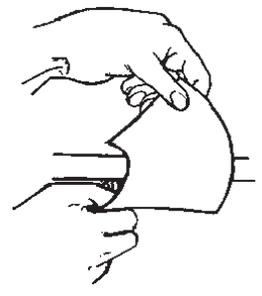

Figure 14
4. Roll the transition cone across the edge of a table or workbench (Figure 14).